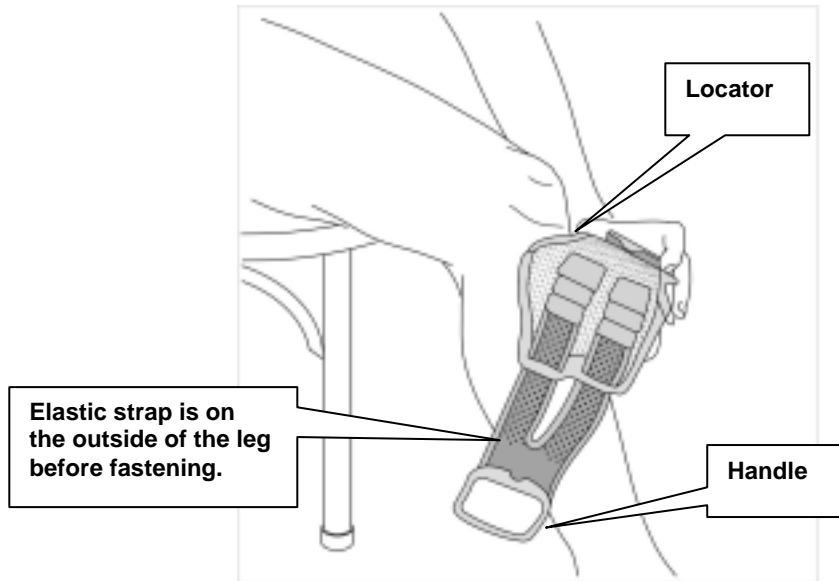

Figure 6: Placing the Orthosis on the Leg
1. Place the orthosis onto the leg, with the "U" of the upper edge, called the Locator, snugly, but comfortably against the lower part of the kneecap, as in Figure 6.